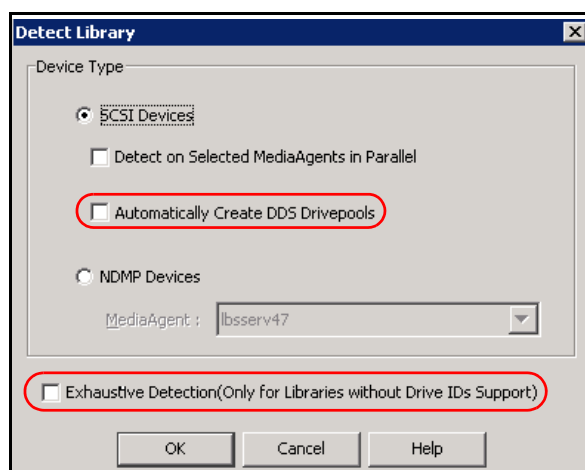

Figure 18-5 Detect new library
7. In the General tab, right-click **Libraries** and click **Detect/Config Devices**. The Detect Library window opens (Figure 18-5). Ensure all the check boxes are clear.